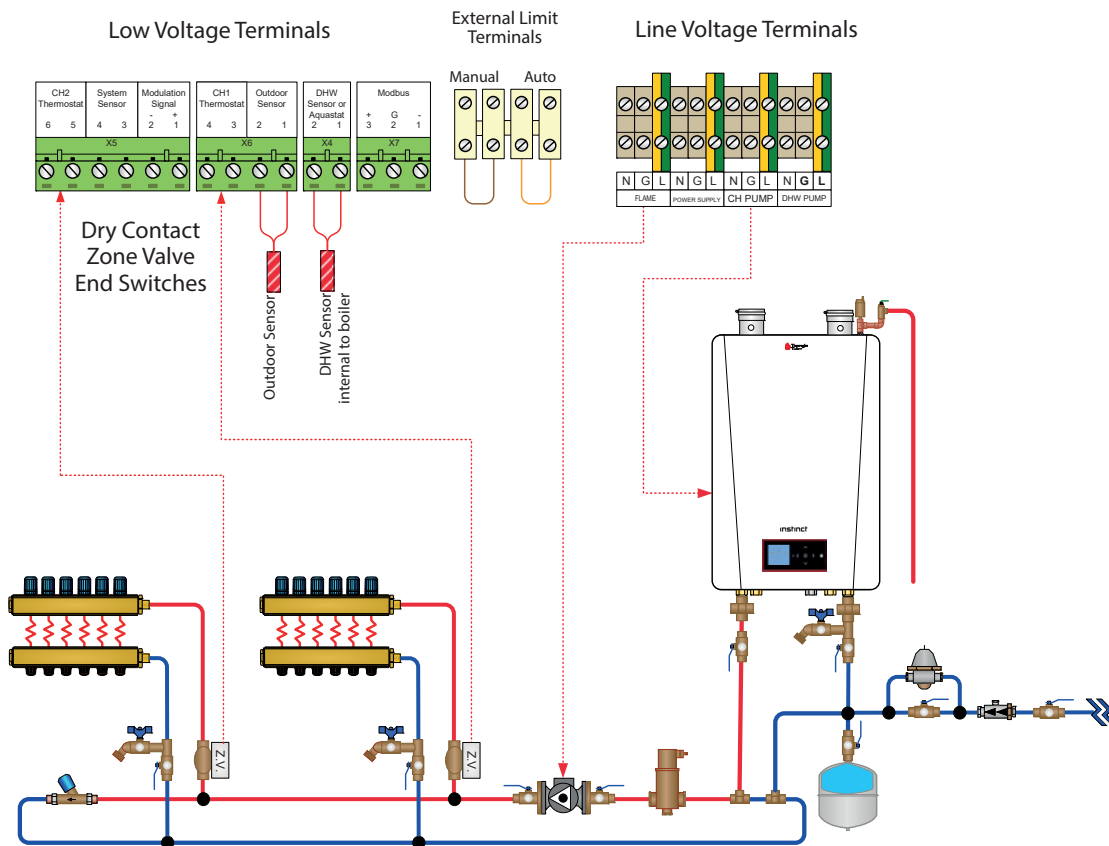
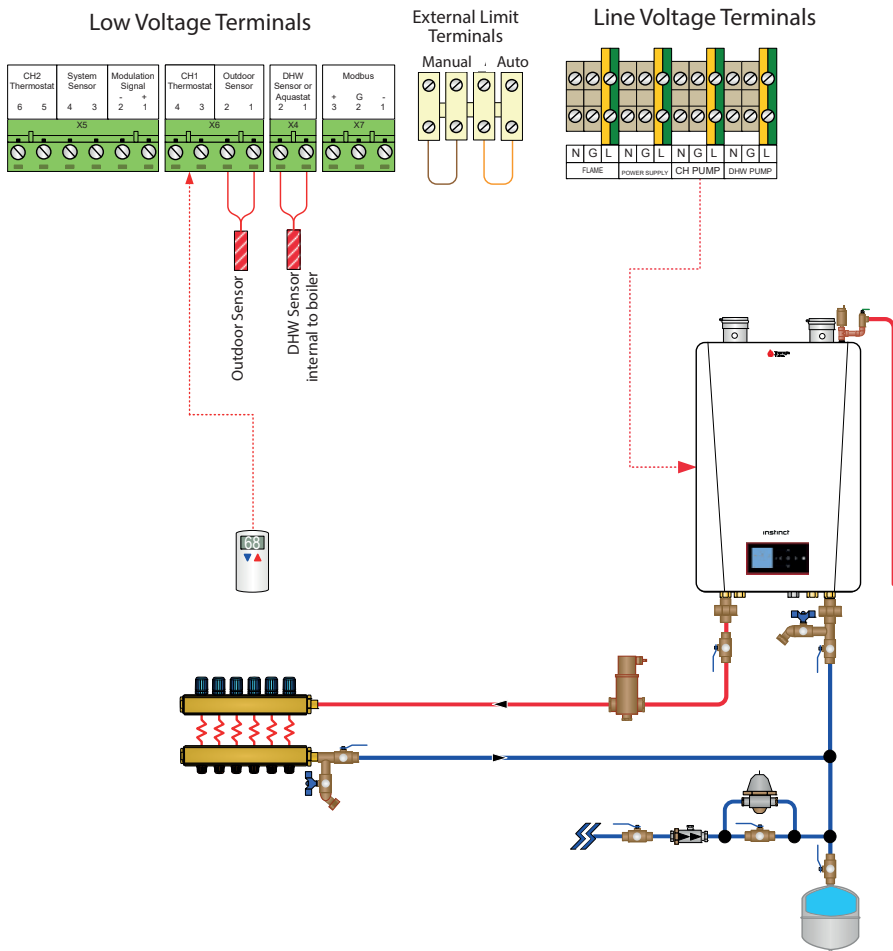

Fig. 12 - INSTINCT Combi System Piping - Zoning w Valves
Fig. 14 - INSTINCT Combi - System Piping - Single Zone with Single Circulator
See *Fig. 12 on page 24 through Fig. 14 on page 26*, for recommended piping arrangements based on various applications. Size the piping and system components required in the space heating system using recognized design methods.
Connect the INSTINCT Combi to the system piping as shown in *Fig. 12 on page 24* when zoning with zone valves.
*Fig. 14 on page 26* illustrates a single zone system utilizing the boiler circulator as the system circulator.